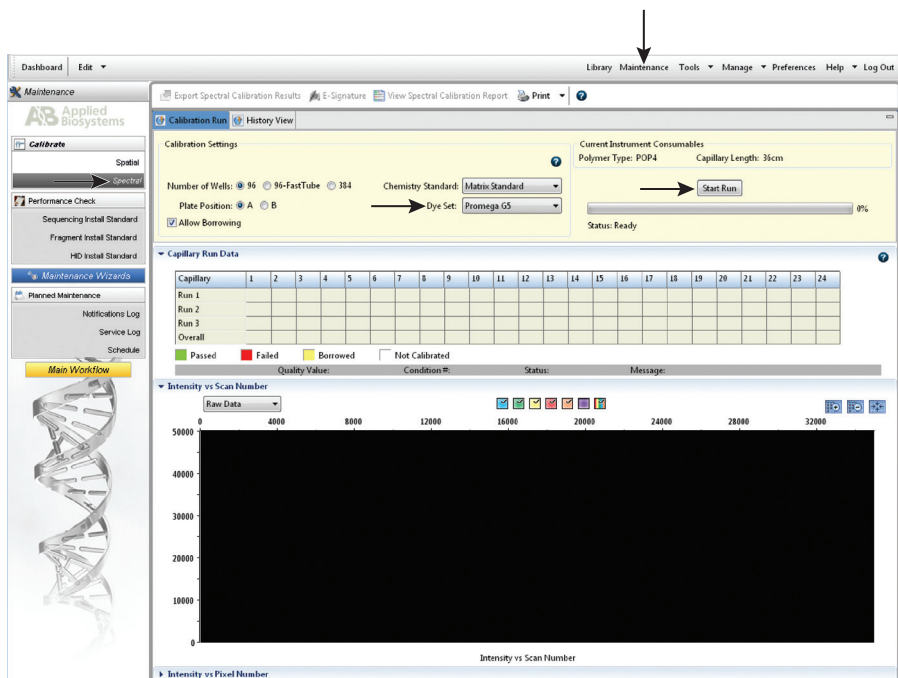

Figure 3. Calibration Run.
- c. To perform the spectral calibration with the Promega 5-dye chemistry, go to the Maintenance tab, select "Spectral", and under the Calibration Run tab, choose the appropriate fields: Choose "Matrix Standard" from the Chemistry Standard pull-down menu and the new Promega 5-dye set created in Step 2b (i.e., Promega G5) from the Dye Set pull-down menu (Figure 3).